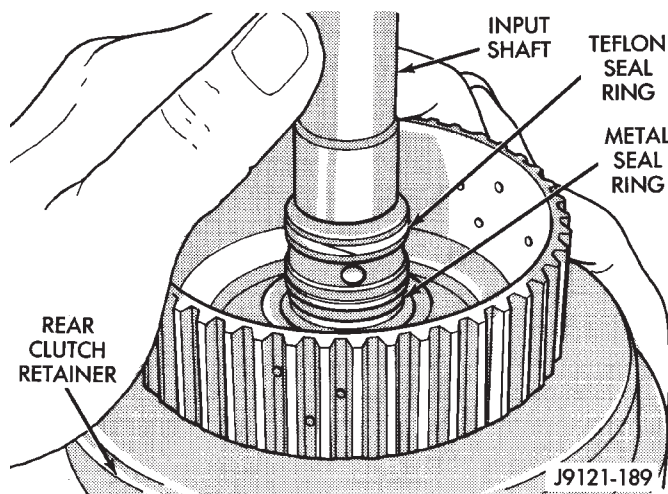

Fig. 142 Input Shaft Seal Ring Location
(2) Check input shaft seal rings (Fig. 142). Verify that diagonal-cut ends of teflon seal ring are properly joined and ends of metal ring are correctly hooked together. Also be sure rings are installed sequence shown.
(3) Check rear clutch thrust washer. Use additional petroleum jelly to hold washer in place if necessary.